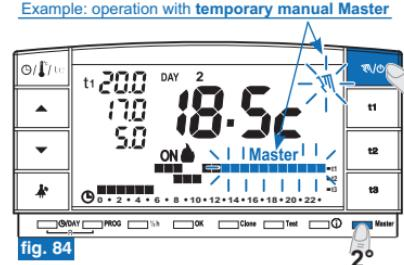

fig. 84
- briefly press the "**AV/O**" key on the MASTER chronothermostat to enter into temporary manual operation; appears blinking symbol "**AV**" (see details in paragraph 7.1 point A) (example in fig. 84).